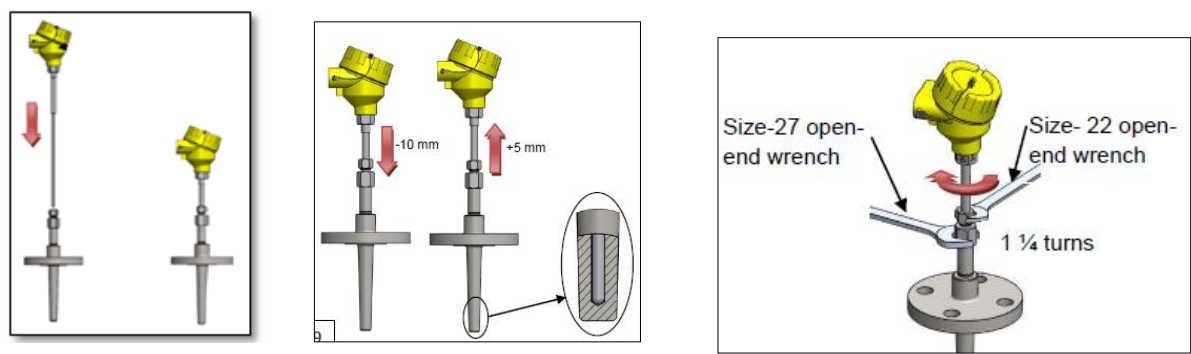

figure 5: Temperature probe mechanical assembly
Bumblebee temperature sensor is intended to be used with a thermowell, see figure 5.
Step1. Fix the process connector of the lower extension to the thermowell using a 27mm open end wrench (Figure 5 left)
Step 2. Insert the gauge and the upper extension through the lower extension and inside the thermowell (Figure 5 left)
Step 3. Once the end of the lower extension is in contact with the bottom of the thermowell, lower the connecting head by approximately 10mm (in order to compress the measuring element's spring). Mark this position (f) (Figure 5 left)
Step 4. Raise the connecting head by 5mm (to retain a sufficient spring effect to ensure that the measuring element is maintained at the bottom of the thermowell and that vibrations are damped) (Figure 5 middle)
- Step 6. Fasten the lower extension on the upper extension using a 22mm open end wrench(Figure 5 right).